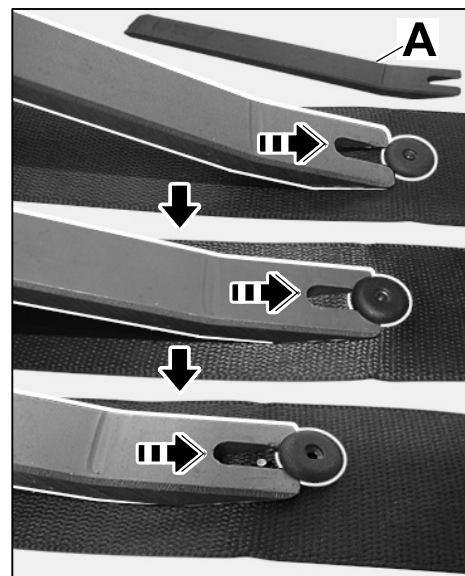

Figure 3
- 6.1 Carefully insert a plastic spatula, e.g. from Wieländer + Schill (article no. 0704 ⇒ *Figure 3 -A-*), between the bottom part of the plastic rivet and the belt strap.
- 6.2 Carefully press plastic spatula along the belt until the bottom part of the plastic rivet springs off upwards (⇒ *Figure 3*).